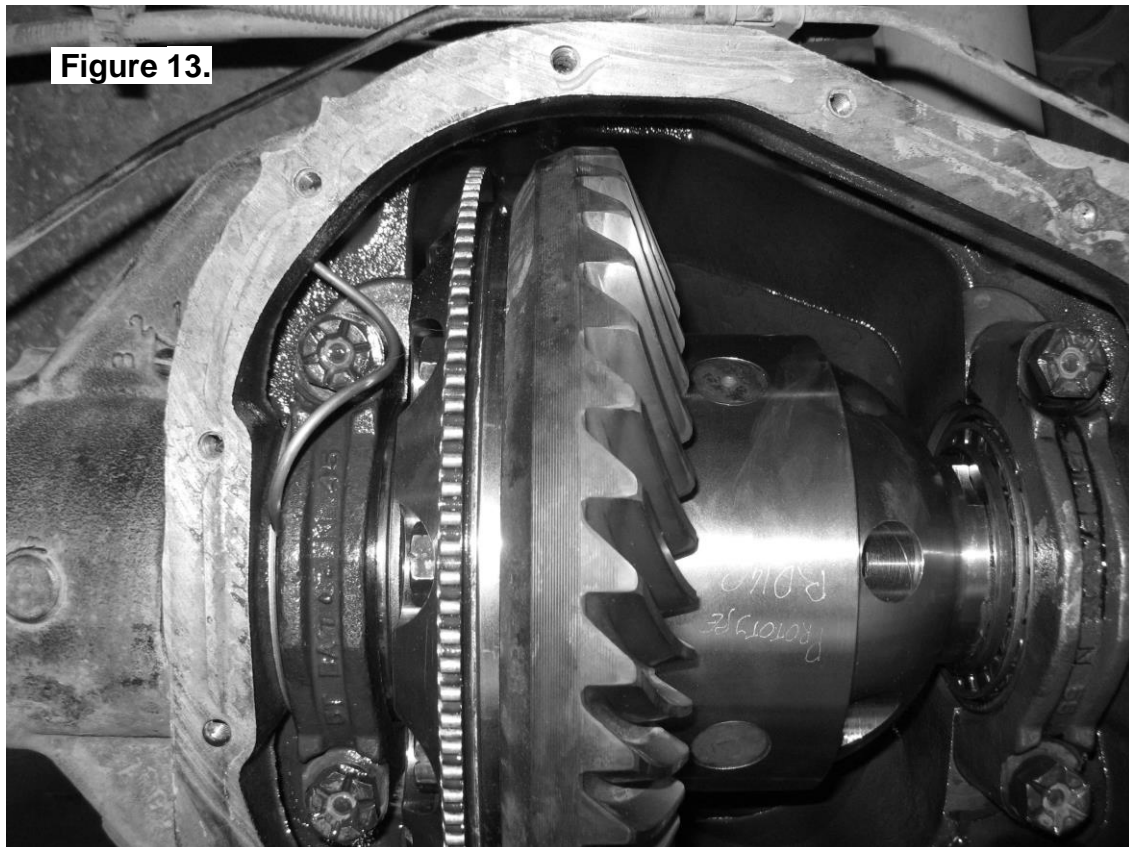

Figure 13.
- Without using sharp, jagged tools such as pliers (usually your hands are the best tool for this job), gently bend the seal housing tube so that it runs along the inside of the differential housing as shown in Figure 13.